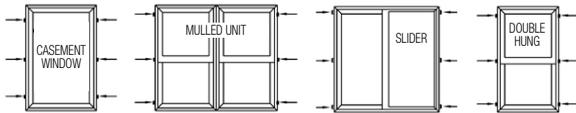

FIG. 14
- J) Check the unit for square using diagonal measurements. Shim window to ensure the unit is square. Casement units over 48" in height must have shims placed at the center to prevent bowing of jambs. **Note: Use flat shims.** (Fig. 14)
- K) **For double hung units: To ensure proper window operation and performance, it is critical to shim at the check rail to ensure the frame widths are equal at the top, center and bottom of the unit.** (Fig. 14)
- M) Make sure jambs, head and sills are straight. Additional shimming may be required. (Fig. 14)